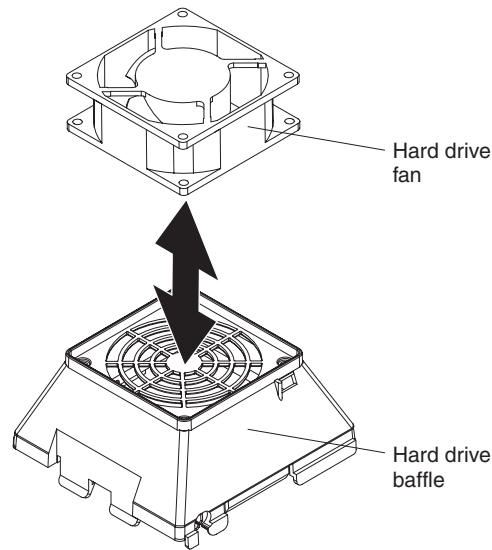

Figure 32. Removing the hard disk drive fan
8. Set the fan assembly on a level work surface with the fan facing up (see Figure 32 on page 99).